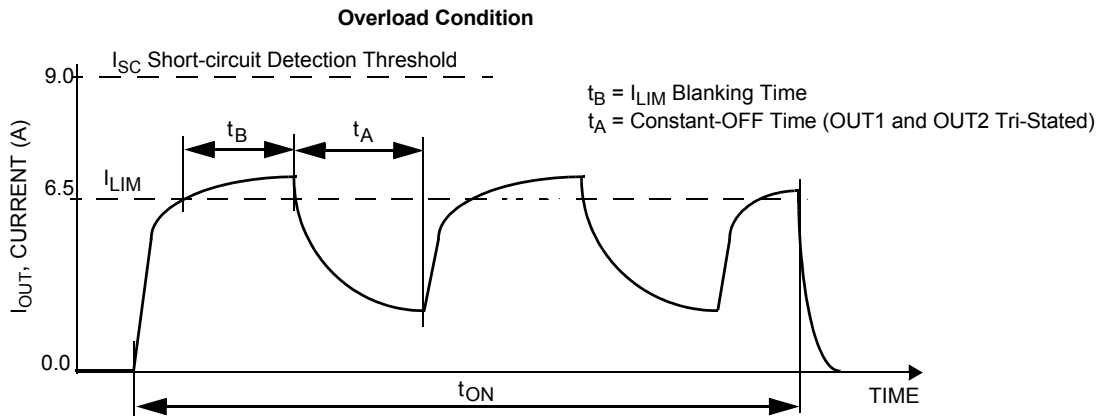
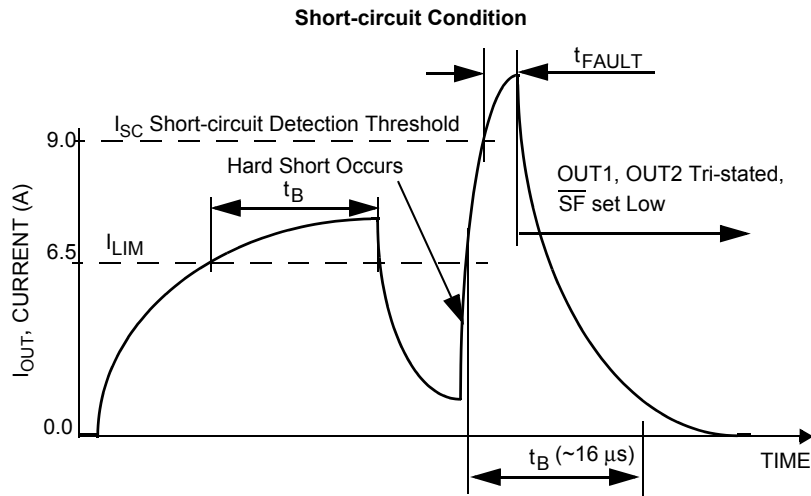
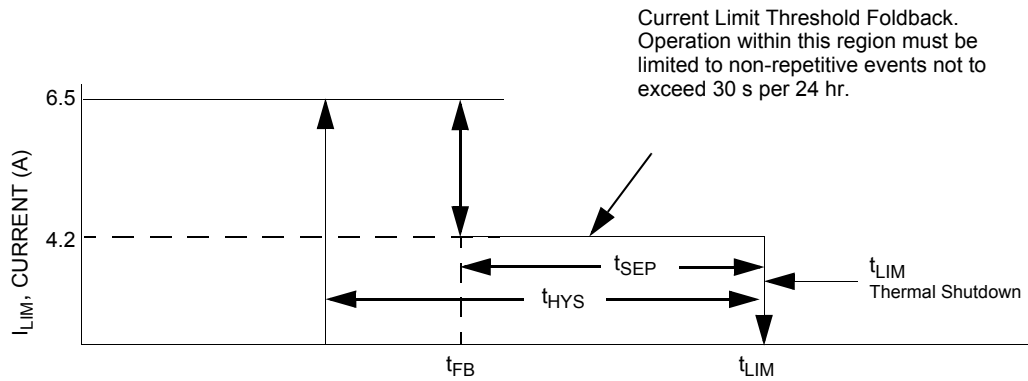

Figure 7. Current limit blanking time and constant-off time
Figure 8. Short-circuit detection turn-off time t_{FAULT}
Figure 9. Output current limiting foldback region
- Load currents ramping up to the current regulation threshold become limited at the I_{LIM} value (see Figure 7). The short-circuit currents possess a di/dt which ramps up to the I_{SCH} or I_{SCL} threshold during the I_{LIM} blanking time, registering as a short-circuit event detection and causing the shutdown circuitry to force the output into an immediate tri-state latch-OFF (see Figure 8). Operation in Current Limit mode may cause junction temperatures to rise. Junction temperatures above $\sim 160\text{ }^\circ\text{C}$ causes the output current limit threshold to "fold back", or decrease, until $\sim 175\text{ }^\circ\text{C}$ is reached, after which the T_{LIM} thermal latch-OFF occurs. Permissible operation within this fold back region is limited to non-repetitive transient events of duration not to exceed 30 seconds (see Figure 9).